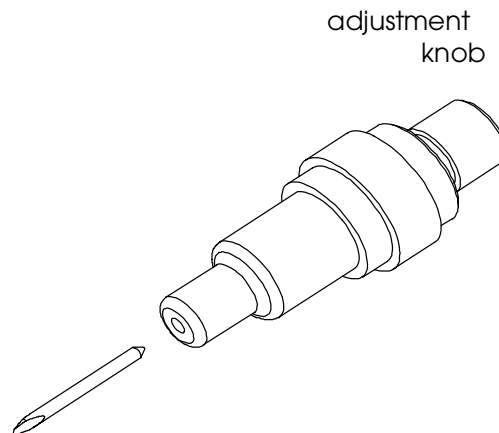

FIGURE 1-4
1. Insert the knife blade into the knife holder as shown in Figure 1-4.